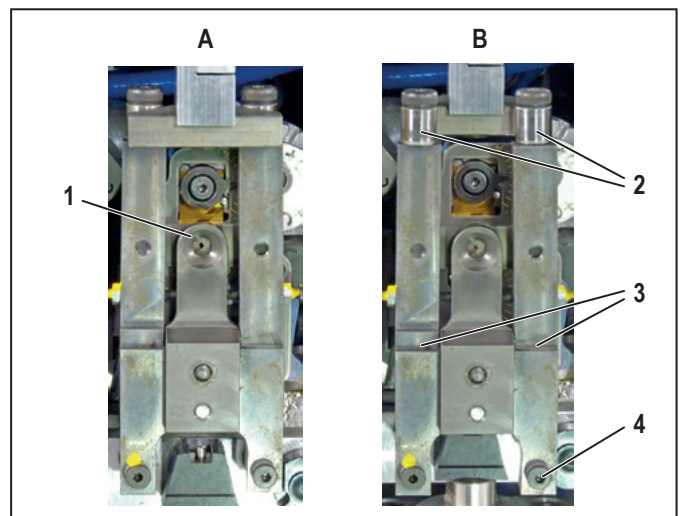

Figure 7.4 Stranded wire fixing unit in operating position (A) and pulled forward (B)
- ▶ Pull the stranded wire fixing unit forwards (figure 7.4 , B).
- ▶ Check whether the rollers (2) are able to move freely.
- Ensure that the stranded wire fixing unit is located in the front position (figure 7.4, B).
- Remove the bottom right screw of the stranded wire fixing unit (figure 7.4, 4).